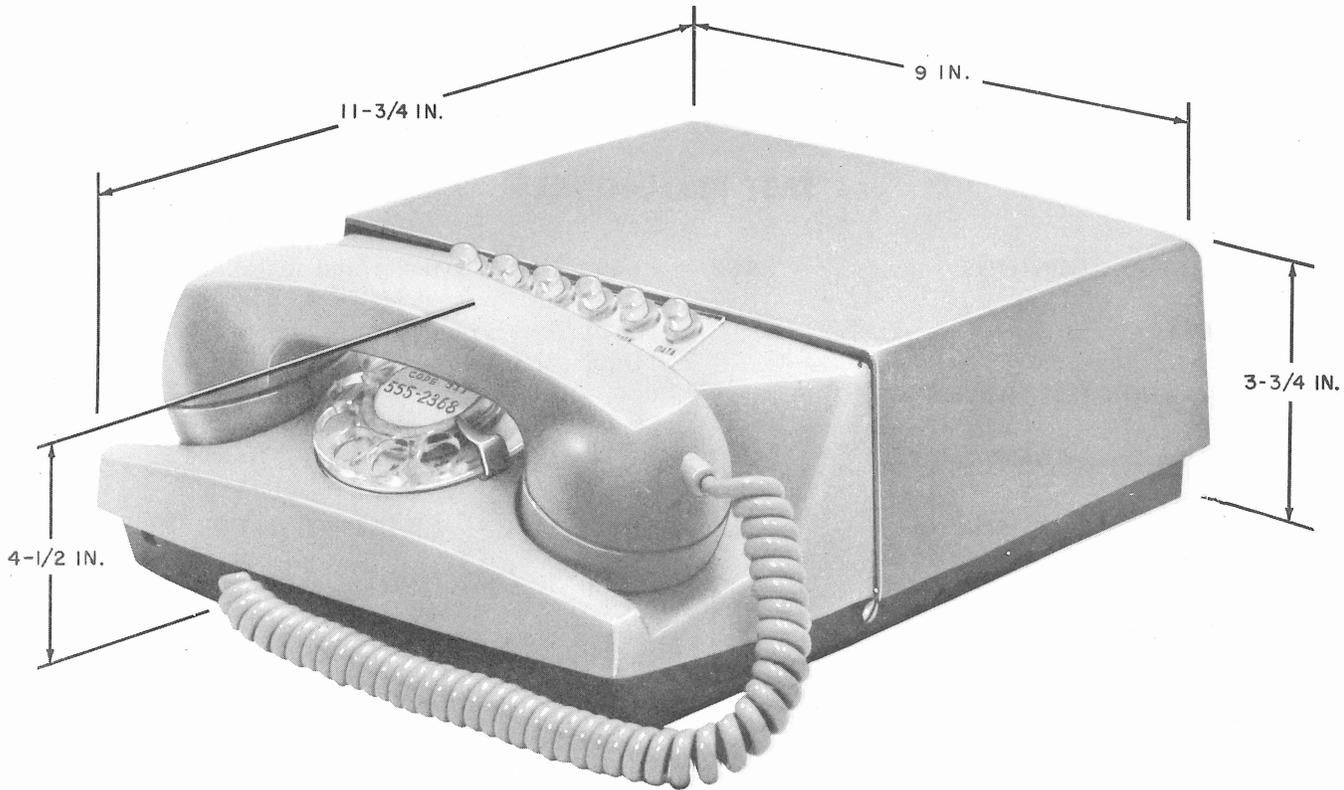

Fig. 1—Data Set 603A1, Front View
**1.03** Identification of the data set model can be made by the type dial on the data set. Data Set 603A1 uses a rotary dial as shown in Fig. 1. Data Set 603A2 uses a TOUCH-TONE® dial as shown in Fig. 2.